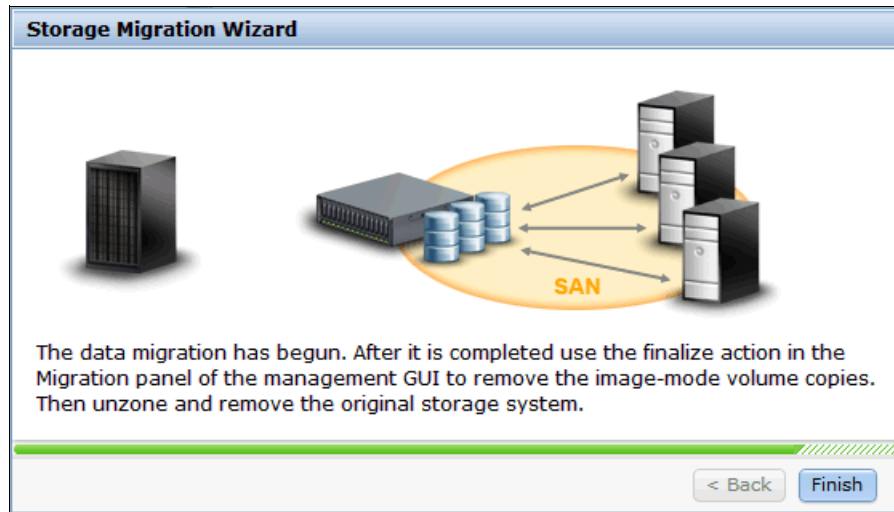

Figure 7-20 Storage Migration Wizard step 8 - Migration has begun
10. Click **Finish** to end the Storage Migration Wizard as shown in Figure 7-20.